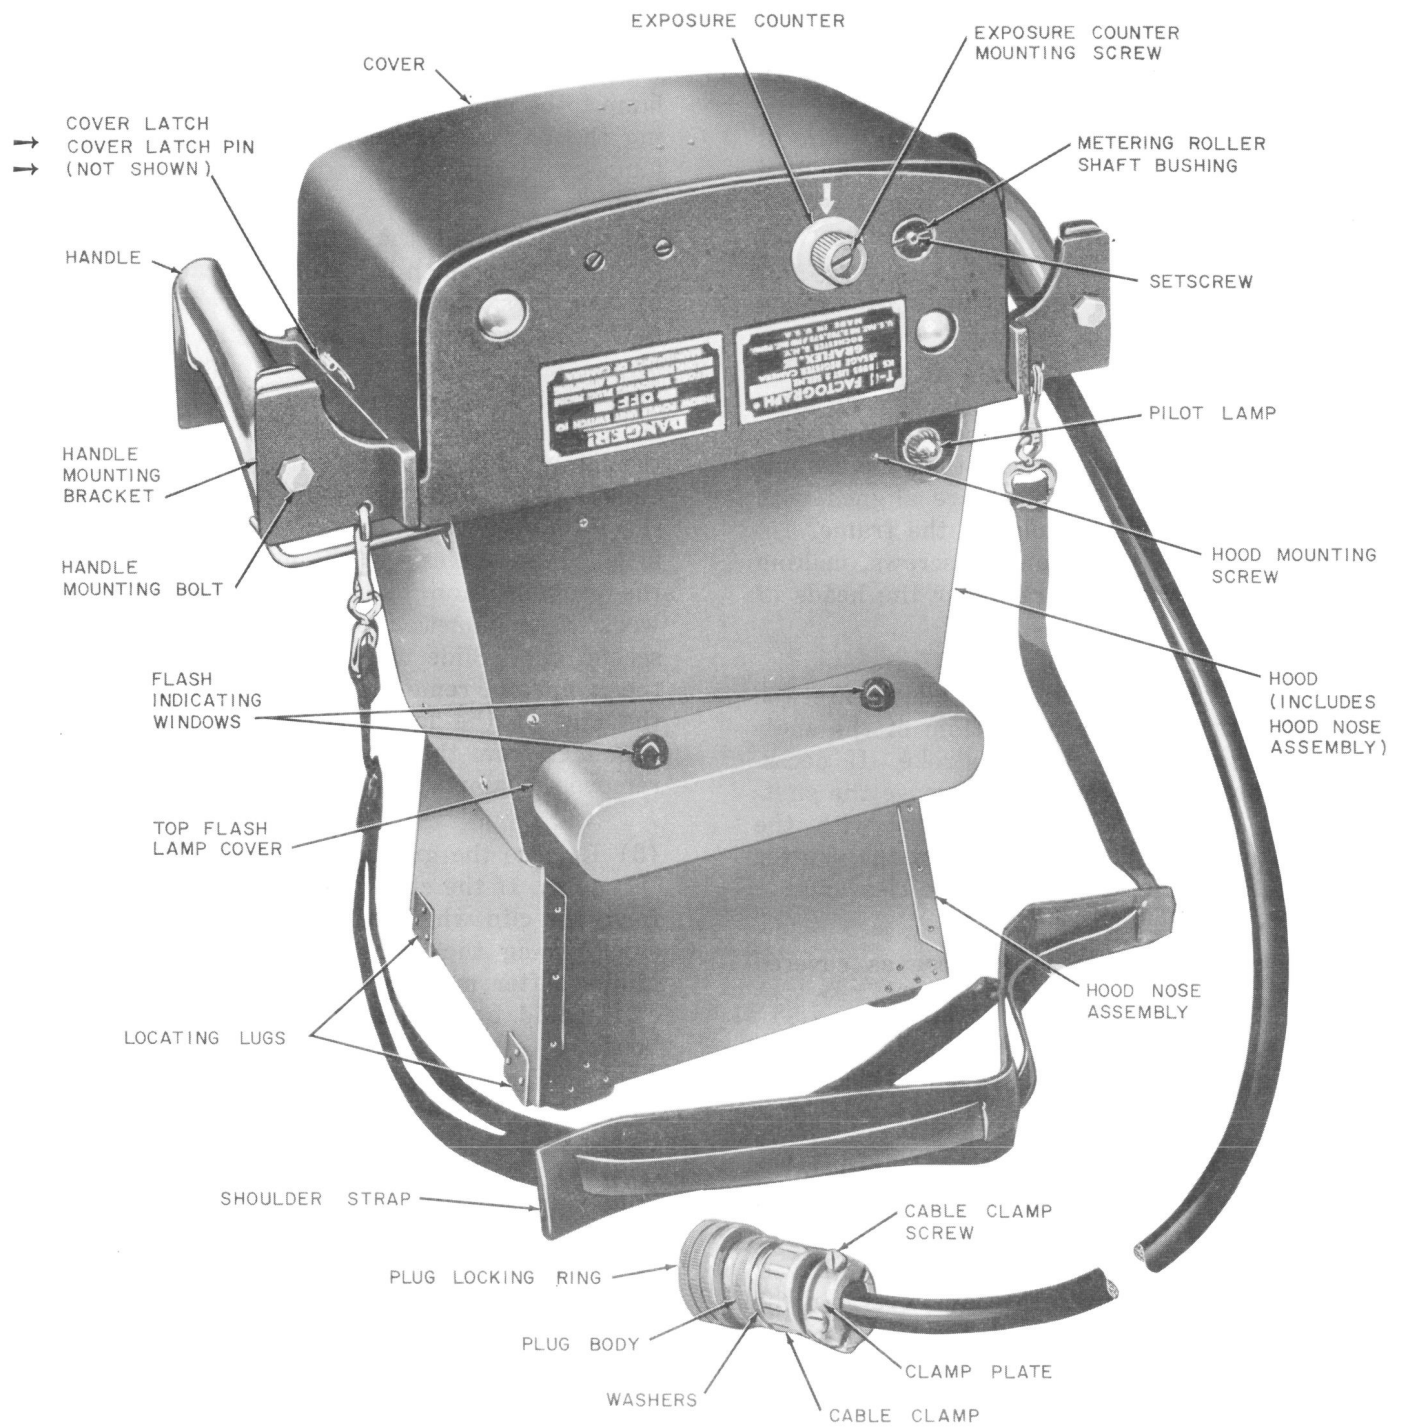

Fig. 11 — KS-14593 L2 Message Register Camera (Exterior View)
3.08 Cover Latch: Fig. 11 — Remove the cover.
↗ **3.09 Cover Latch Pin:** Fig. 11 — Remove the cover. Remove the defective latch pin from the cover using the riveting hammer and drive pin punch as required. Substitute a replacement latch pin from the 34533-G1 kit. Securely fasten the pin with a lockwasher and nut from the kit, using the 349 wrench. Apply pressure carefully ↘ to avoid stripping the thread of the pin.
3.10 Handle: Fig. 11 — Remove the handle mounting bolts and lockwashers using the KS-6367 wrench. Remove the handle. Mount the new handle and securely tighten the mounting bolts, making sure the lockwashers are in place.
3.15 Flash Lamp Cover: Fig. 9 and 11 — Place the camera on its side so the cover to be replaced will be accessible. Remove the cover mounting screws and washers from the inside of the camera hood using the KS-14336 screwdriver. Remove the cover. Mount the new cover. In the case of the cover equipped with the flash indicating windows (Fig. 11), mount the cover with the windows facing the exposure counter. Securely tighten all screws.
3.16 Flash Indicating Windows: Fig. 11 — Manually unscrew and remove the window. If necessary, apply the P-long-nose pliers as close as possible to the flash lamp cover to loosen the window. Mount the new window finger-tight.
3.18 Pilot Lamp: Fig. 11 — Unscrew the lamp cap. With the tips of the fingers, press the lamp inward and turn it counterclockwise to disengage it from the socket. Remove the lamp. Mount the new lamp in reverse order of removal and remount the lamp cap.
3.19 Pilot Lamp Socket: Fig. 11 and 12 — Remove the pilot lamp as covered in 3.18. Remove the camera hood as covered in 3.06. Remove the high-voltage shield (Fig. 9) using the 3-inch C screwdriver. Unsolder and disconnect the lamp socket leads. Remove the lamp socket mounting nut and washer using the Williams No. 731 wrench. Remove the lamp socket. Mount the new lamp socket and securely tighten its mounting nut making sure the lock-washer is in place. Connect and solder the leads. Remount the high-voltage shield and hood. Remount the lamp as covered in 3.18.
3.42 Metering Roller, Metering Roller Shaft, and Metering Roller Cam: Fig. 11 and 15 —
ing at the wind knob side of the camera using the R-2671 wrench. Unscrew the bushing from the end of the shaft using the 5-inch E screwdriver. Push the shaft inward with the R-1102 spudger until the bushing on the shaft at the exposure counter side of the camera (Fig. 11) is accessible. While holding the metering roller and metering roller cam in one hand, grasp this bushing with the other hand and remove the shaft. Remove the metering roller and cam.
Fig. 11 — Remove the exposure counter mounting screw using the 4-inch E screwdriver taking care not to lose the spring, lockwasher, and spacer mounted under the screw head. Remove the exposure counter. Substitute new parts as required. Mount the new exposure counter on the shaft. Position the spacer and lockwasher on the mounting screw with the spacer nearer the head of the screw. Position the spring in the recess in the exposure counter and mount the screw, spacer, and washer. With the exposure counter and metering roller gears engaged, hold the metering roller to prevent it from turning and securely tighten the exposure counter mounting screw.